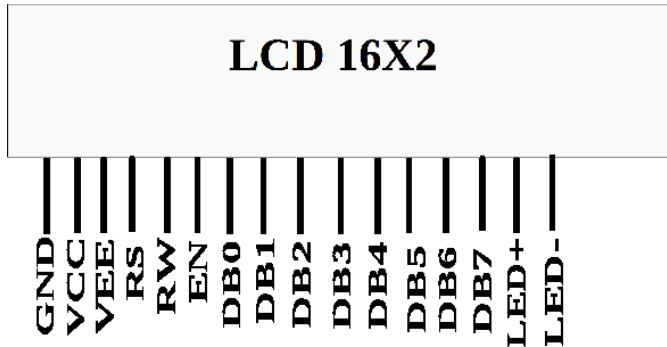

Fig. 2.1.1: lcd
- 2.1. Plug the LCD in Fig. 2.1.1 to the breadboard.